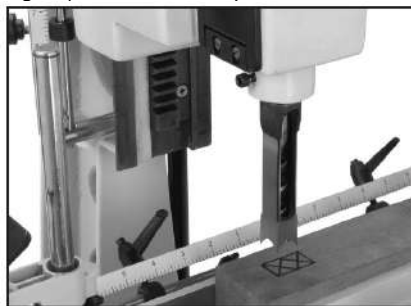

Fig 13
2. Use the table controls to align the mortising chisel with the layout lines (see Fig 13) and set the depth and table stops.